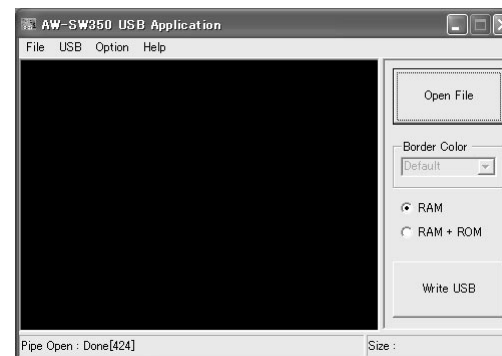

Fig.9 Application program main screen
- 2** The main screen shown in Fig.9 appears when the application program used with the USB image transfer program for the AW-SW350 is started up.